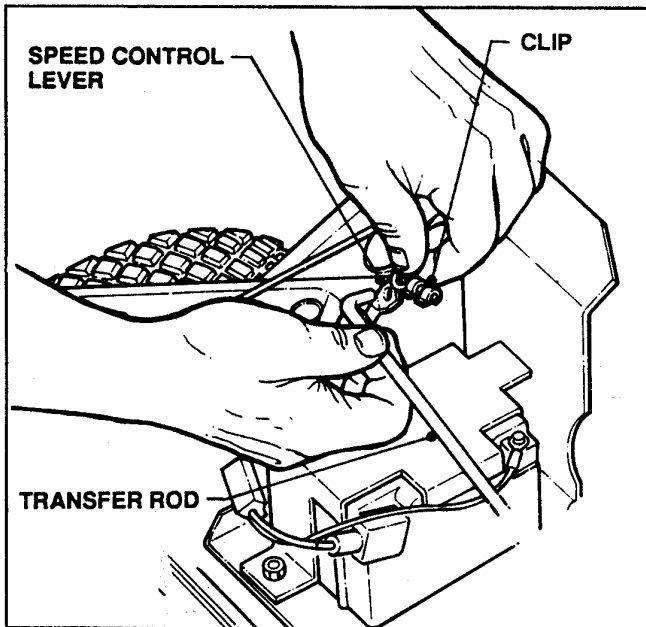

FIGURE 1
**STEP 1:** Remove clip and disconnect transfer rod from speed control lever and driven disc assembly. See Figure 1.